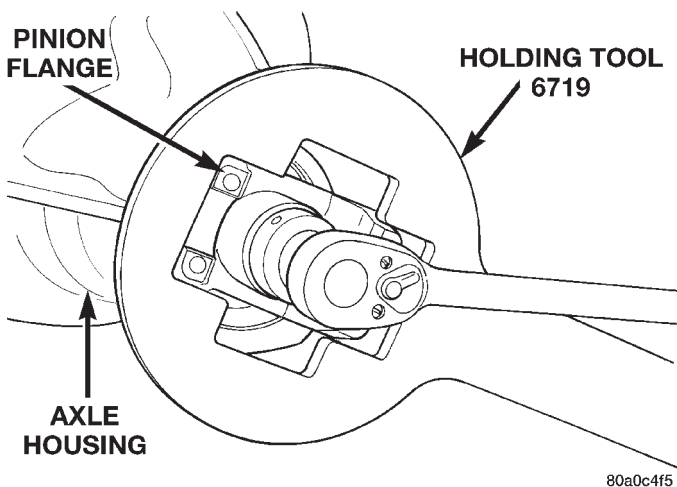

Fig. 36 Tightening Pinion Nut
(9) Use Flange Wrench 6719 to retain the yoke (Fig. 36). Slowly tighten the nut in small increments until the rotating torque is achieved. Measure the preload torque frequently to avoid over-tightening the nut.